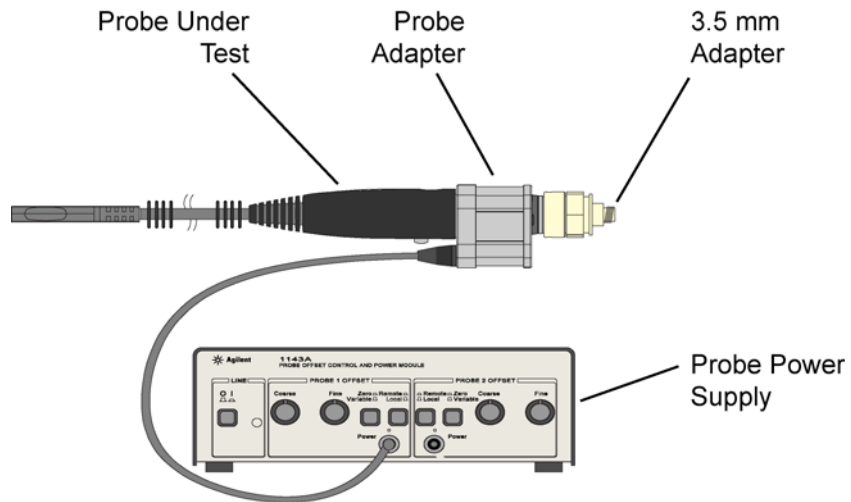

Figure 16 Probe Connected to Probe Adapter (*not to scale*)
- 6 Connect the probe under test to the AutoProbe Adapter and power the probe using the 1143A power supply as shown in Figure 16 on page 41. Install the outside thread adapter to the AutoProbe Adapter.